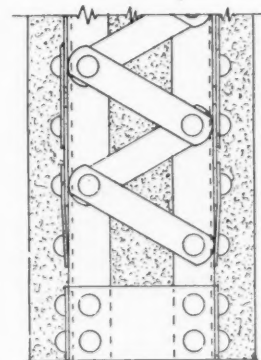

Fig. 53. Plan of Column and Elevation of Reinforcement. Structural Reinforcement
"The type of column referred to as (d) may come under either one of the general headings (1) or (2). An illustration of this type is shown in Fig. 53; but this type should be kept distinct from structural steel work, which is figured to carry the load in itself, and which is merely protected from fire by the addition of a concrete coating. In this type of column, shown in Fig. 53, the interior may be figured to carry its part of the load, while the exterior is for protective purposes.